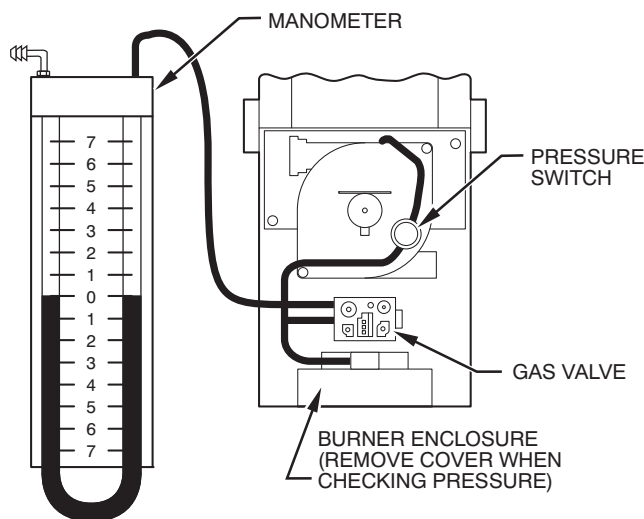

Fig. 12 - Adjusting Manifold Pressure (Manometer Attachment)
- n. Remove manometer and replace 1/8-in. (7 mm) plug in brass tee. (See Fig. 12.)